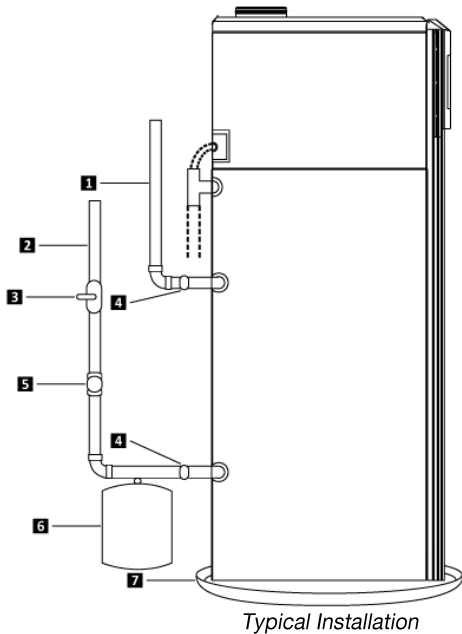

Fig. 6
K. THERMAL EXPANSION "Thermal Expansion" is an action that occurs as water is heated. The water expands in volume and creates an increase in pressure within the water system. Methods of dissipating this pressure depend on if the water system is "closed" or "open". In a "closed" water system, a check valve exists in the cold water inlet line that prevents backflow. It may be a separate backflow preventer, or it may be part of a pressure-reducing valve, water meter or water softener. In an "open" water system, there does not exist a check valve or backflow preventer in the cold water inlet line and therefore expanding water flows back into the city main where the pressure can be easily dissipated. Determine if a check valve exists in the cold water inlet line. Since a "closed" water system prevents the expanding water from flowing back into the city main, the action of "thermal expansion" occurs. "Thermal expansion" can create a rapid and dangerous increase in pressure in both the water heater and the water system piping. This increase in pressure can very quickly reach the safety setting of the relief valve, resulting in the discharge of water during each heating cycle. "Thermal Expansion" can cause premature failure of the relief valve and possibly the water heater itself due to the repeated expansion and contraction of components within the water heater and water piping system. It's important to know that replacing the relief valve WILL NOT correct the problem! The recommended method of controlling "thermal expansion" is to install an expansion tank in the cold water line between the water heater and the check valve (please refer to figure 6). The expansion tank is designed with a built in air cushion that compresses as the system pressure increases. This process relieves the over-pressure condition and thus the repeated operation of the relief valve. An expansion tank is only one method of controlling "thermal expansion". There are other methods available. Contact a licensed plumber, the local plumbing authority, water utility or plumbing inspector for additional information regarding "thermal expansion" control methods.